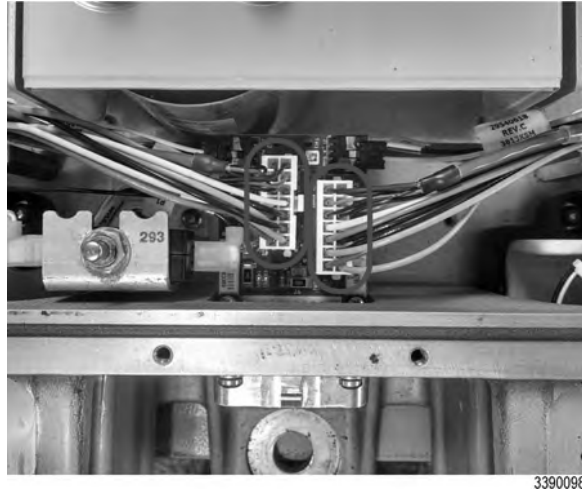

Figure 5. 14-Way White Connector Removal
1. Disconnect the two (2) 14-way white connectors from the signal interface card (refer to Figure 5) by releasing the clip and pulling the connectors up from the card. Do not pull on the wires.